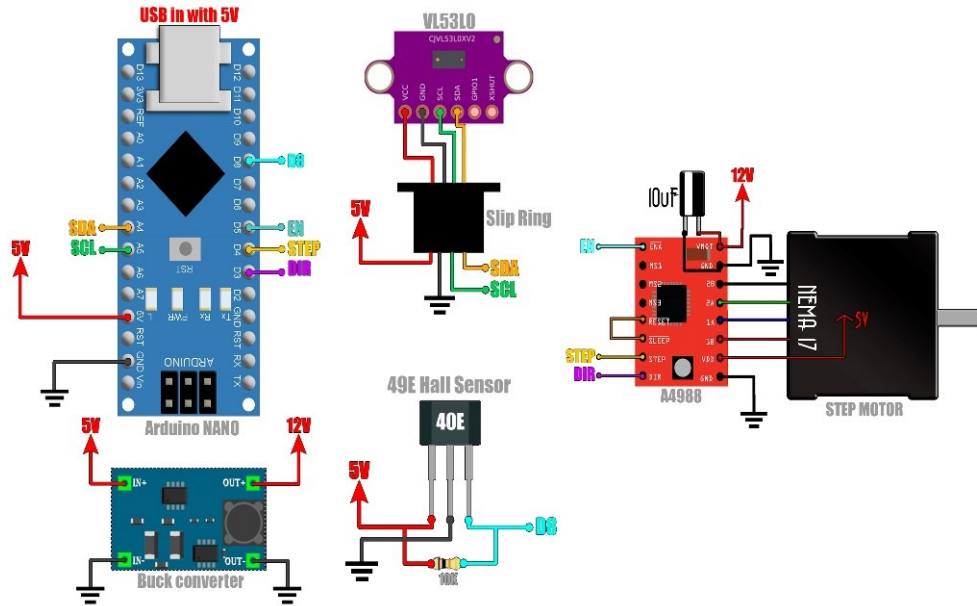

Figure 2. Schematic diagram for connecting sensors.
- B. Connect the system following the schematic provided in Figure 2 as an example. Note that Arduino UNO is utilized in this lab. Connect the I2C pins from the Arduino to the Slip ring. From the slip ring to the VL53L0 distance sensor. Then connect 5V and the D8 pin to the Hall sensor. Connect enable, step and direction to the step motor driver and the motor to the driver. Now connect 5V to the boost converter and set the output to 12V and connect that to the power input of the step motor driver.